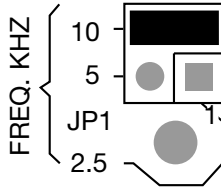

Fig. 3
- The UCM offers three user-selectable excitation frequencies – 2.5kHz, 5kHz or 10kHz. The value chosen should be close to the specified or recommended operating frequency of the LVDT being used. Use jumper on header **JP1** to select the required frequency. See Fig.3.